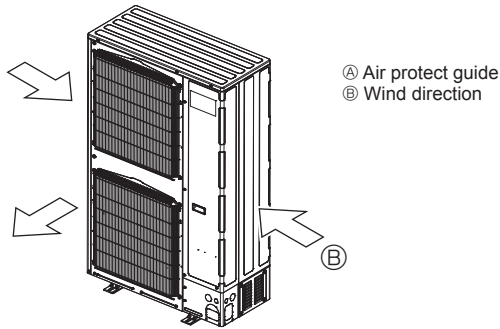

Fig. 2-18
- ③ Position the unit so that the air outlet blows perpendicularly to the seasonal wind direction, if possible. (Fig. 2-18)